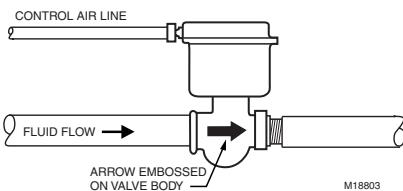

Fig. 1. Valve installation (straight-through pattern shown).
When installing the valve, allow space for the actuator removal and service. See Fig. 1 and 2. Refer to Table 1.
- Install the valve as shown in Fig. 1.